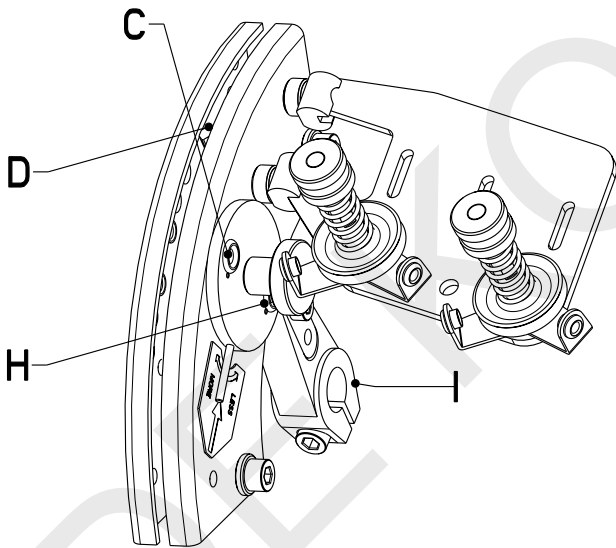

FIG 3.2
Untighten the screw of the arm **I** (figure 3.2) and place the take-up lever **D** into the wanted position (higher=less thread, lower=more thread) afterwards, tighten the screw of arm **I** again.
**Note:** For the typical two-thread overlock stitch, insert the chain yarn in the **C** eye as illustrated in figure 3.2 and 3.3
For special stitch formation similar to a three-thread stitch (see figure 3.4), pass the chain yarn through the **H** eye (see figure 3.2 and 3.3) and then adjust thread feed so that the stitch thus formed is similar to the one shown in figure 3.4.